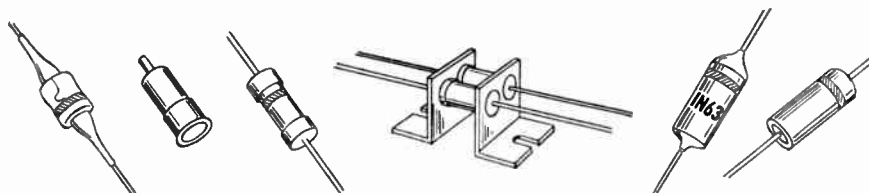

Fig. 11. Examples of crystal diodes, some of which are used in television receivers
**Crystal Diodes.** Many television sets use crystal diodes in place of vacuum-tube diodes. The crystal diode is nothing more than the old-fashioned crystal detector of radio's younger days, modernized to eliminate the adjustable wire catwhisker. Some use silicon crystals, while others use germanium crystals. Examples of crystal diodes are shown in Fig. 11.